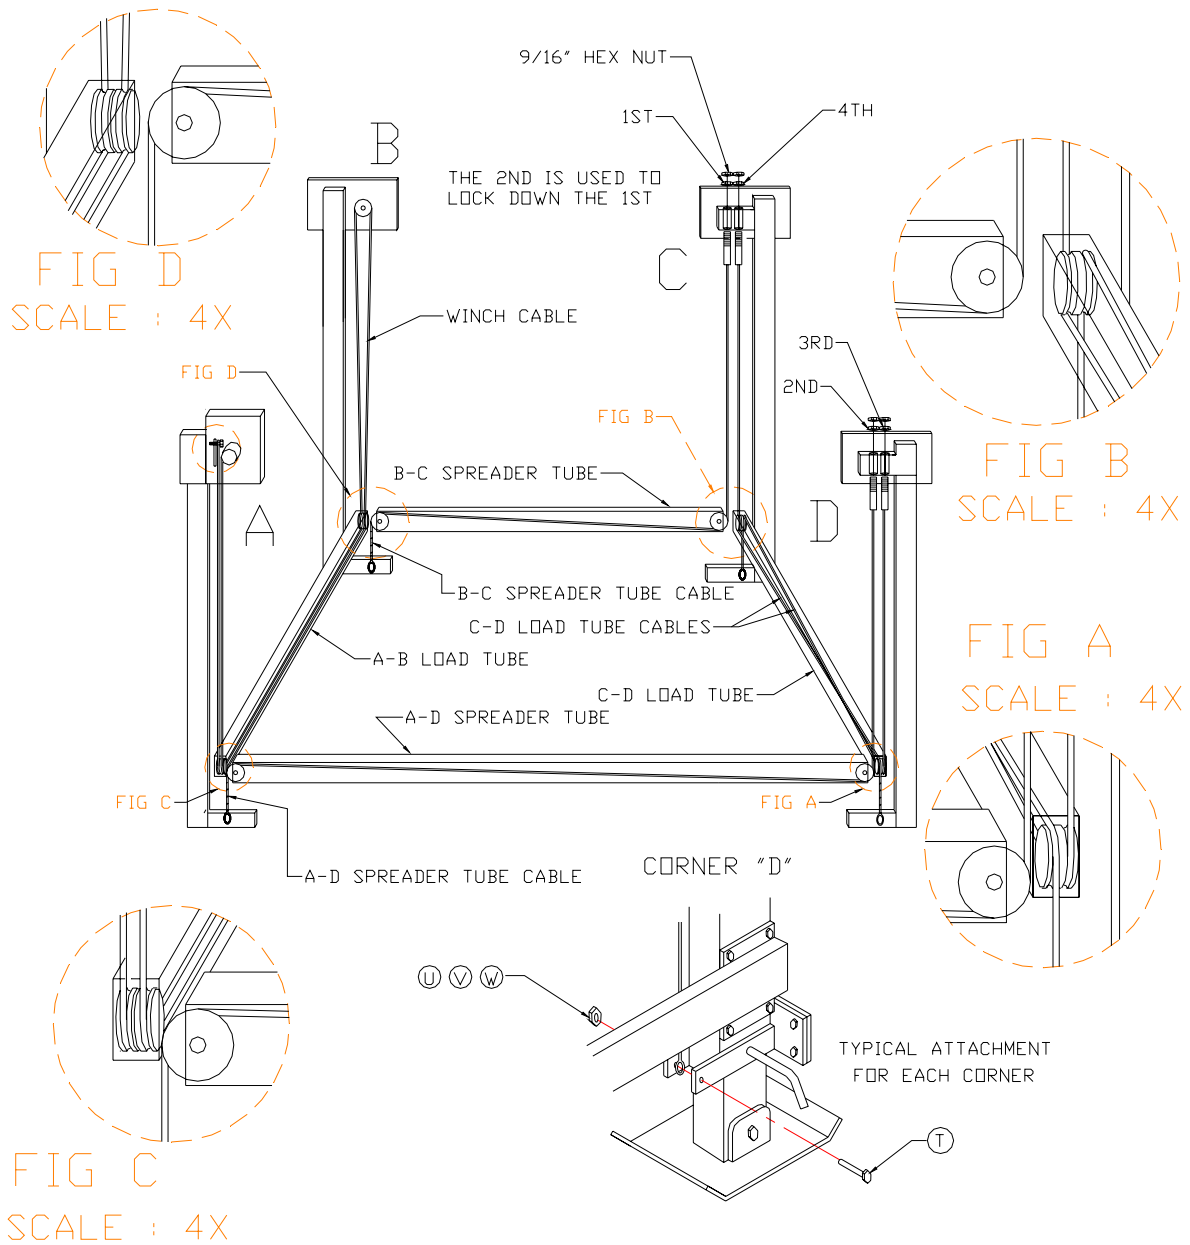

Figure 3-8
2. Refer to Figure 3-8. The load and spreader tubes are already reeved. Fasten the cable end loops to the bracket provided at the bottom of each of the four vertical legs.
3. Using a 7/8” open-end wrench, tighten the cable studs opposite the cable end loops in the following order. The following step numbers correspond to the step numbers shown in Figure 3-8.
1. Refer to Figure 3-8. Reeve looped end of “AB Load Tube “ cable over vertical leg “B” sheave assembly by removing bolt and sheave/bushing assembly from block. Reassemble reeved sheave/bushing assembly back into block and fasten.